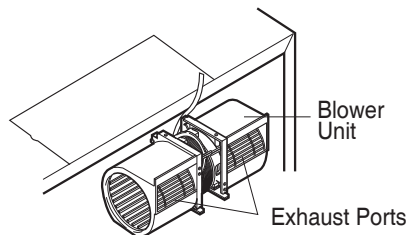

Figure 16
5. Rotate and reinstall the blower unit so that the exhaust ports face the rear of the cabinet and are aligned with the rear cut-outs. See Figures 16 & 17.